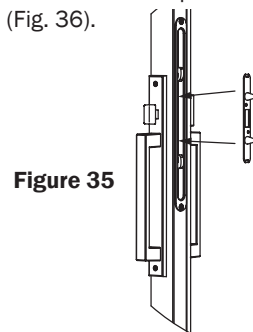
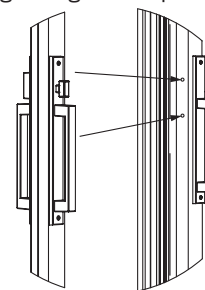

Figure 35
Figure 36
- If an OXXO door, to locate the keeper position on the stile on the panel with the dummy handle, place black locator within the latch (Fig. 35) and close the active panel strong enough to dimple the other panel (Fig. 36).